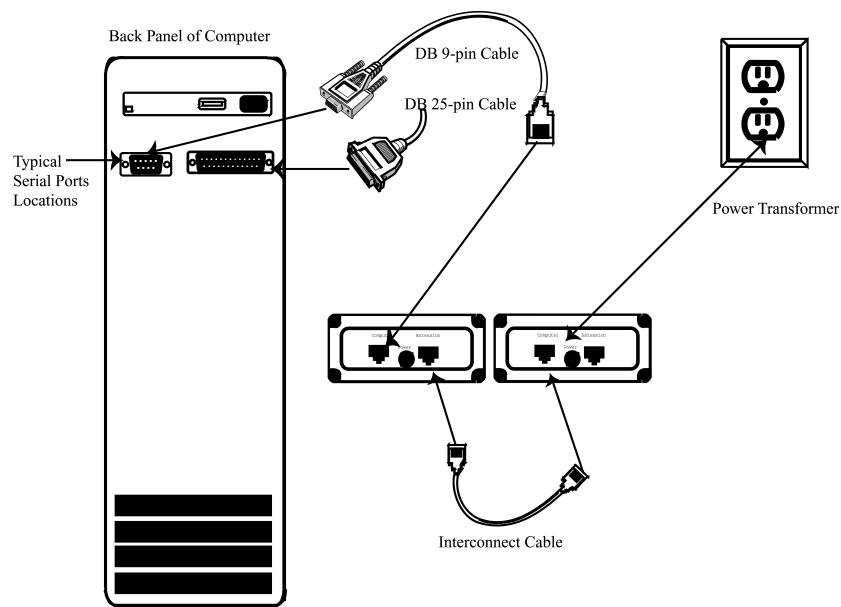

Figure C-1 Base Stations in Series
- a) Use an interconnect cable (TWC-006) to connect the **Extension** port of the first Base Station to the **Computer** port on the second Base Station. See Figure C-1.